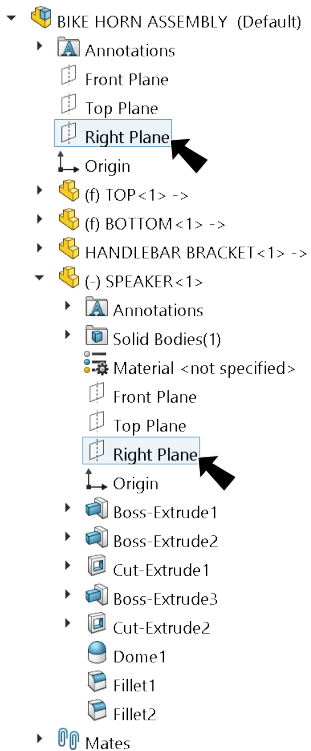

Fig. 7
Step 4. Click **Right Plane**  in flyout Feature Manager design tree in the Feature Manager, expand **SPEAKER** and click **Right Plane** , **Fig. 7**.